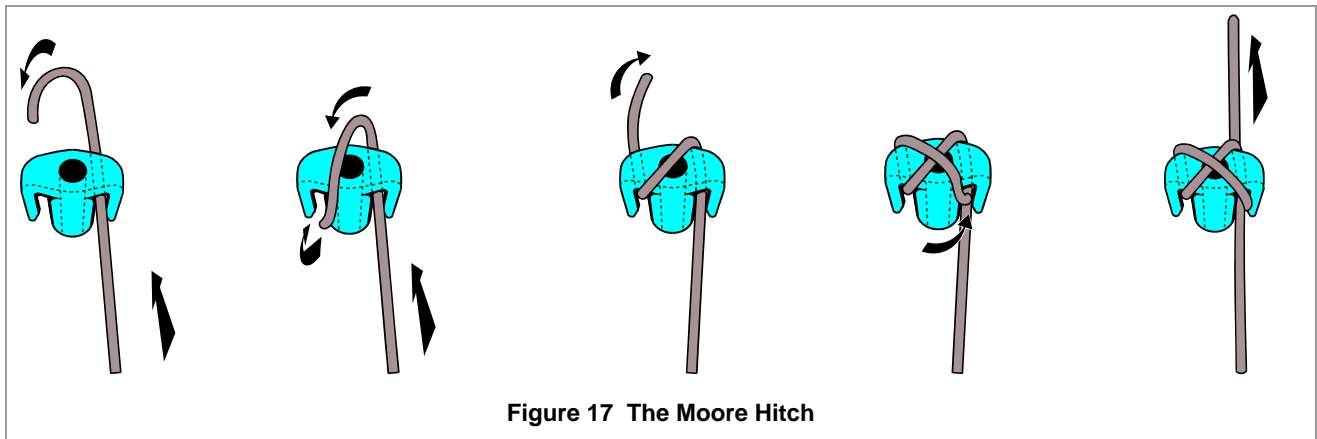

Figure 17 The Moore Hitch
Cost savings can be realized when using the ATRA Clip. Securing tendons to other mechanisms, such as straight pins, is difficult. The ATRA Clip arms allow for the rapid securing of tendons using the Moore Hitch. See Figure 17 for the Moore Hitch illustration.
- If moving down slope, secure the tendon at the top of the slope to an ATRA Anchor illustrated in Figure 14 or deadman anchor illustrated in Figure 17 before starting.